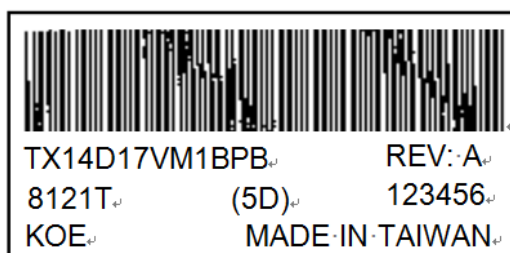

Fig 14.1
- 4) The location of the lot mark is on the back of the display shown in Fig. 14.1.